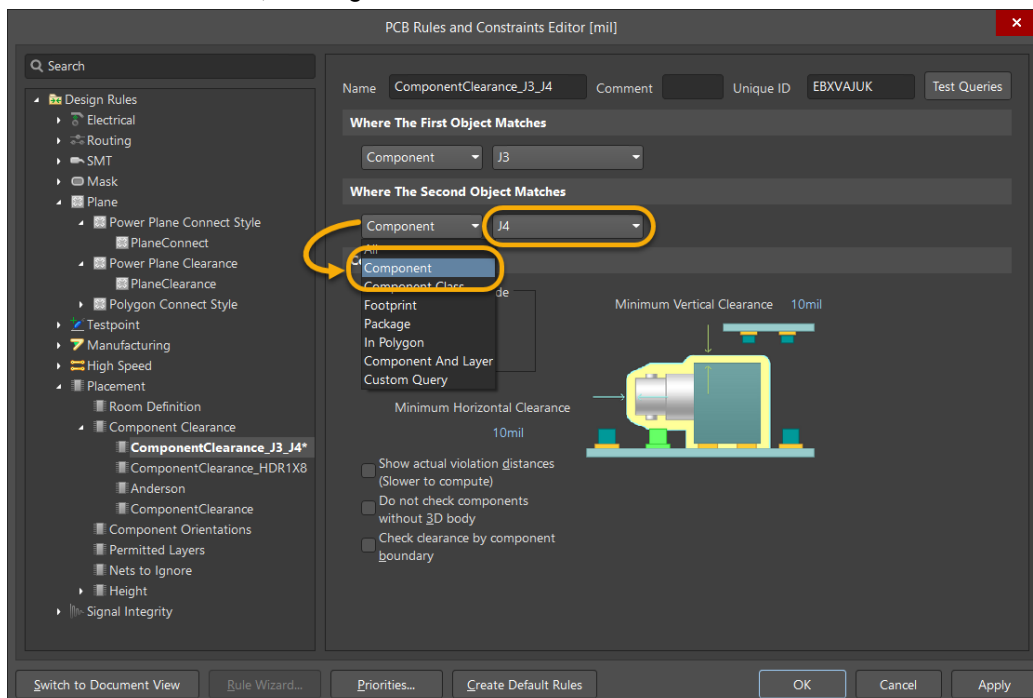

Figure 21. Where The Second Object Matches
- Repeat this for the **Where The Second Object Matches** section, do the same as above and select **J4**, see Figure 21.